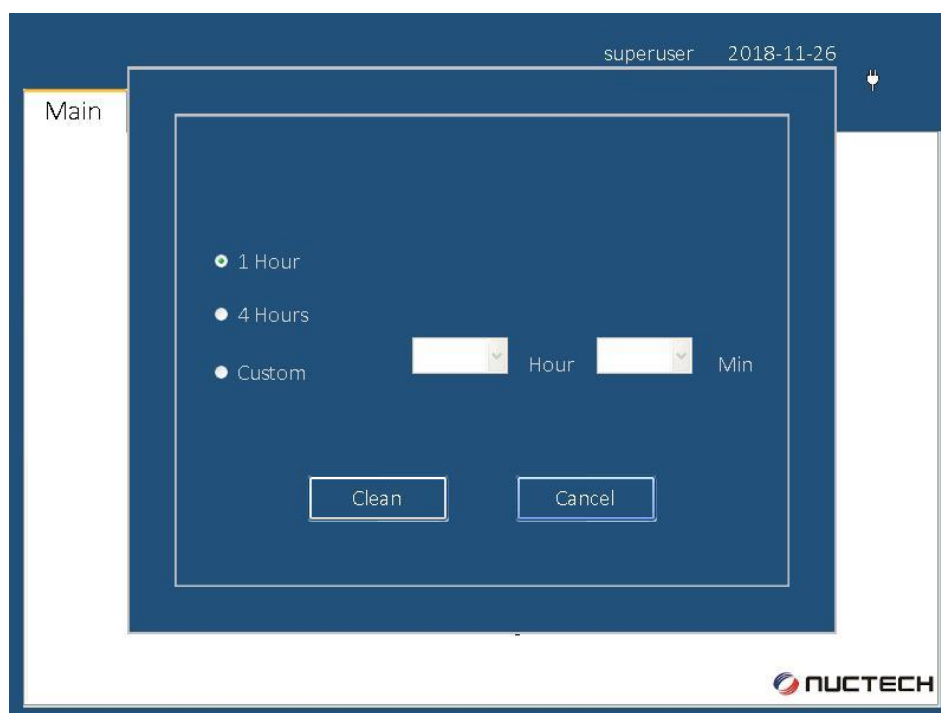

Figure 6.1 Cleaning Menu
1. Click <Maintain> in the menu, and then <cleaning>, interface like figure 6.1 will pop up.